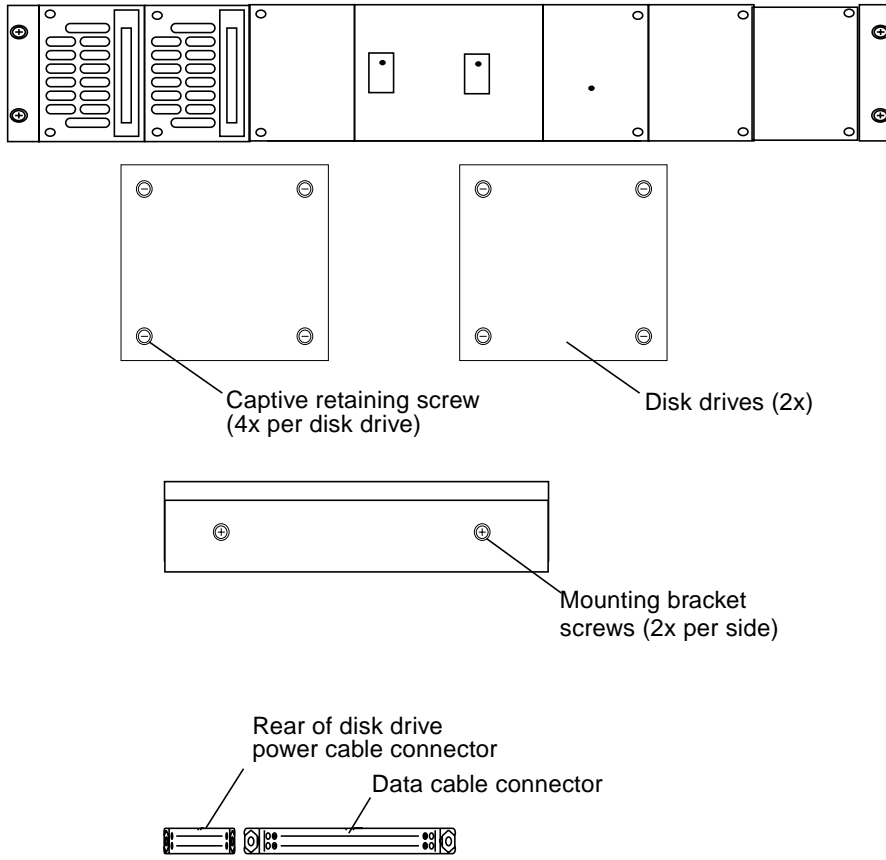

FIGURE 6-43 System Disk Drive
3. Loosen the four disk drive captive retaining screws. Pull the drive forward. See FIGURE 6-43.
4. Put the disk drive/bracket assembly in the space below the HDSA power supply chassis module and tighten the captive retaining screws. See FIGURE 6-43.